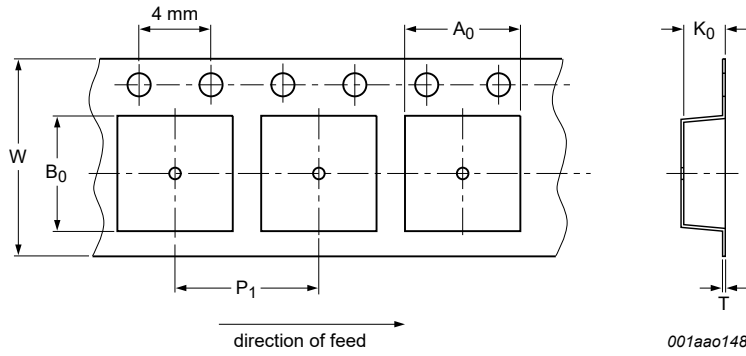

Figure 51. Example of carrier tape dimensions (in accordance with IEC 60286-3)
- Carrier tape dimensions and tolerances (Figure 51 and Table 8)